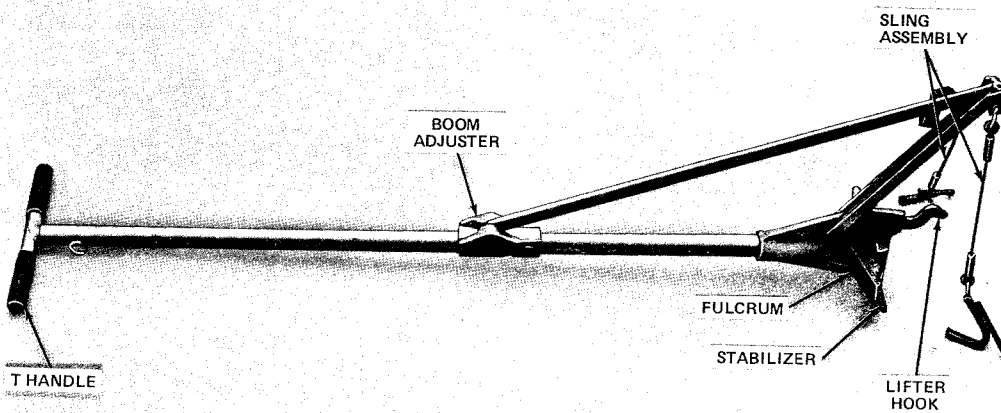

Fig. 7—C Manhole Cover Lifter
4.03 **C Manhole Cover Lifter AT-8967:** The C manhole cover lifter (Fig. 7) can be used to remove round manhole covers with hook holes in either the rim or lifter pockets. The C cover lifter can also be used to remove inner covers.